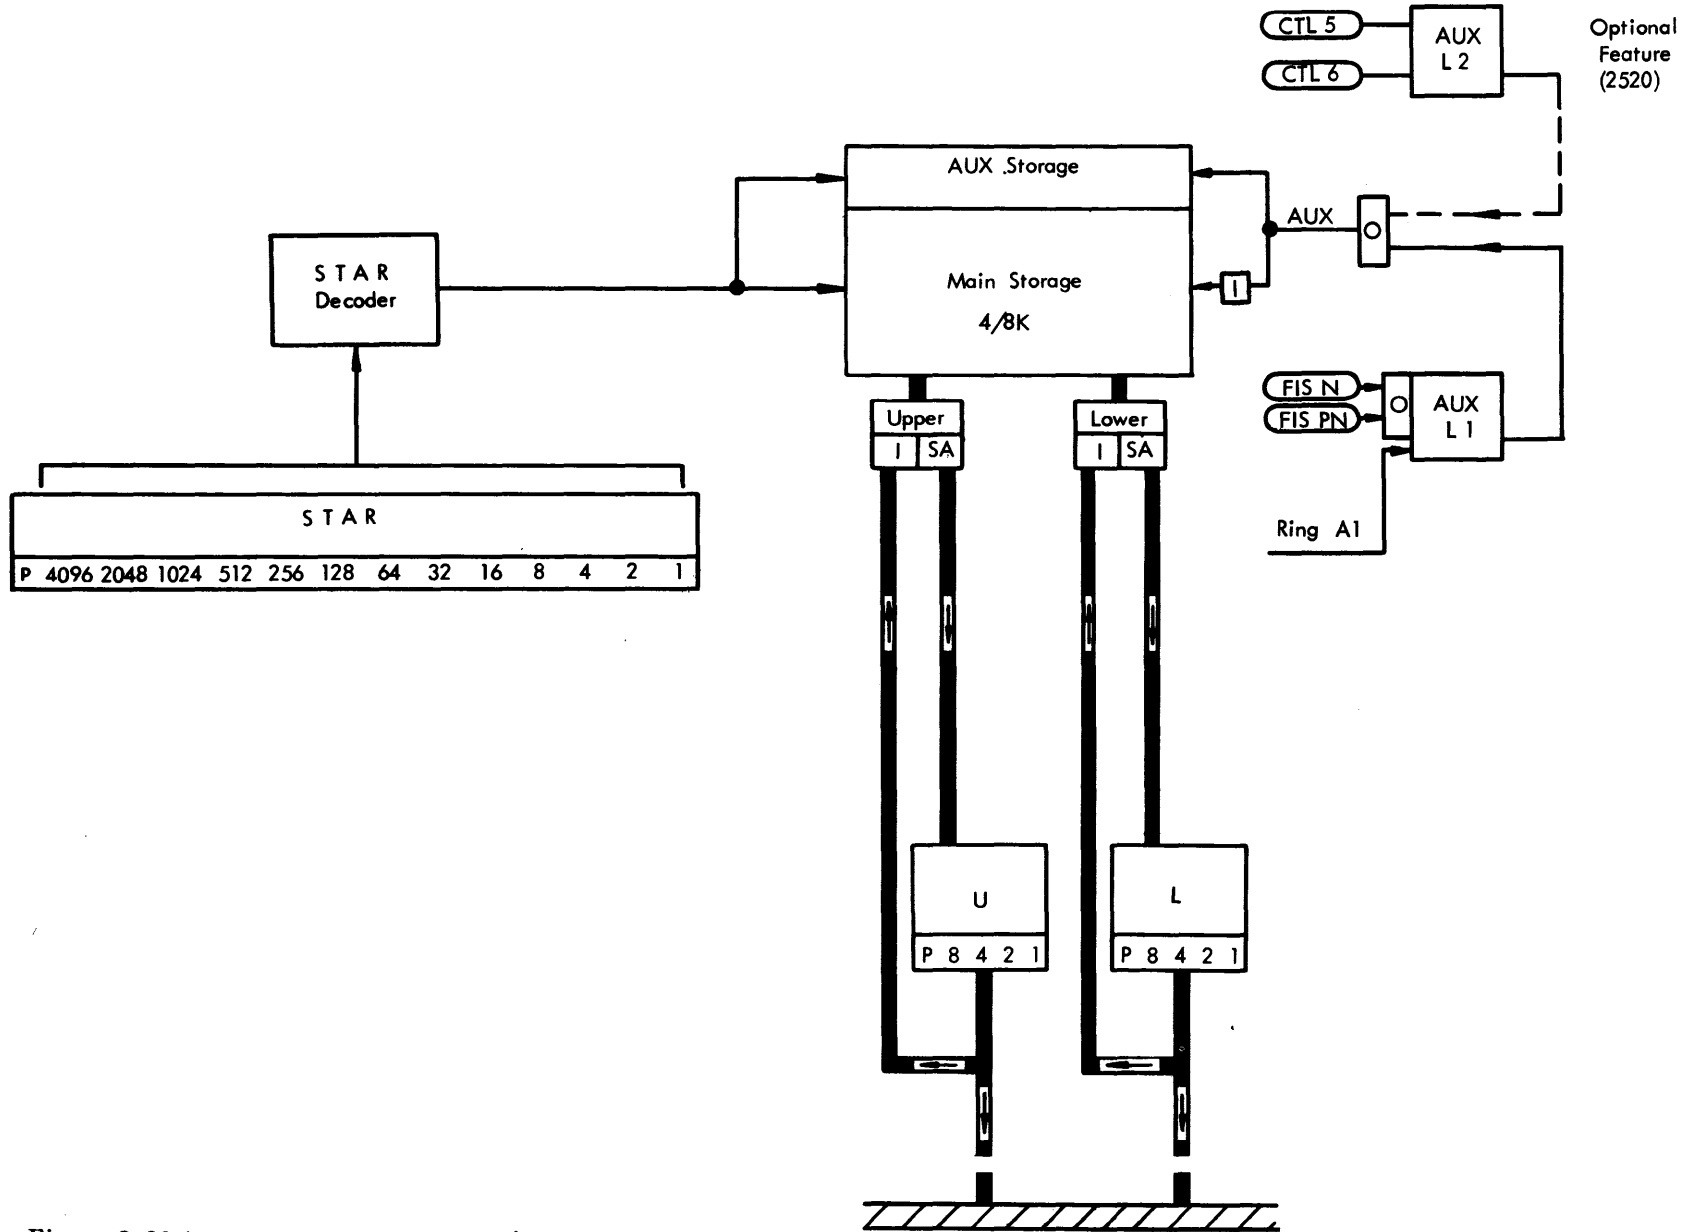

Figure 2-20 Aux Storage Addressing and Data Flow
- Except for the AUX latch, the same addressing, read in and read out circuits (STAR Decoder) are used as for main storage (Figure 2-20).
- All data from or to AUX storage passes through Data Registers U and L (Figure 2-20).
Figure 2-20 shows the true location of the AUX storage in reference to main storage.